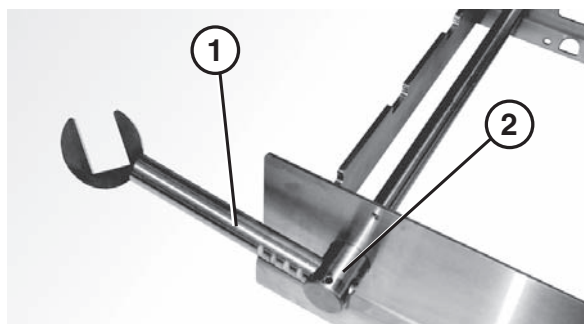

Figure 19
3. Attach nose bar idler shaft hands (**Figure 19, item 1**) to the tip up shaft (**Figure 19, item 2**).